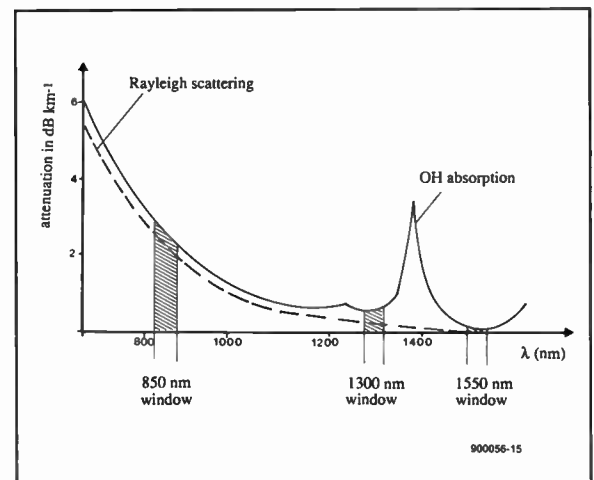

Fig. 7. Relationship between attenuation presented by an optical-fibre cable and the wavelength of the input light.
The absorption component is specific to the glass fibres and can be kept to a minimum during manufacture, when, for example, oxygen-hydrogen (OH) ions may get trapped in the material. Such impurities absorb light at a number of wavelengths as shown in Fig.7. Note that the attenuation of wavelengths around 1300 nm and 1150 nm is very small.
Some spurious particles will always be present in the glass; they come about during the melting process. The dispersion caused by these particles, which are small compared to the wavelength of the light used, is called Rayleigh scattering, which reduces with increasing wavelength—Fig. 7. Scattering is an intrinsic property of the glass: it cannot be eliminated. It is partly caused by the glass fibres and partly by properties of the